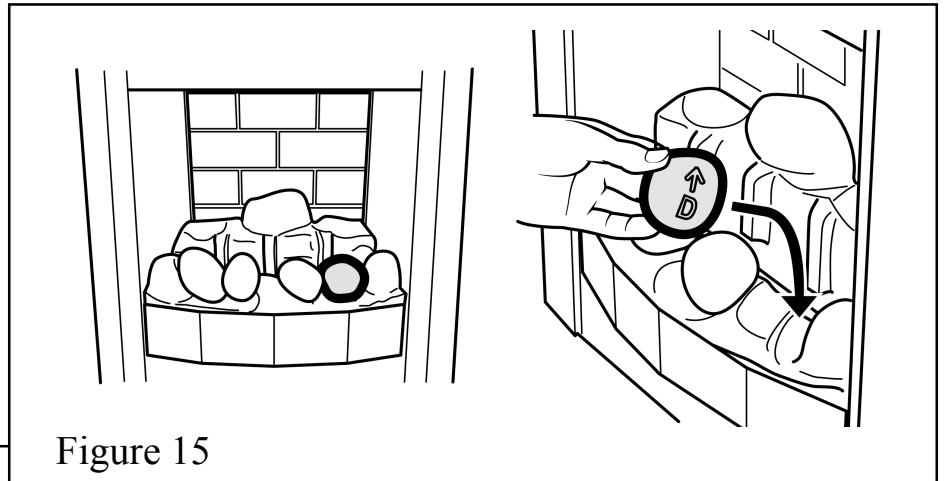

Figure 15
6. Hold pebble 'D' upright with the arrow pointing to the top. Place pebble "D" on top of the base front pebble. It should rest against the moulded pebble to its right. (See figure 15).